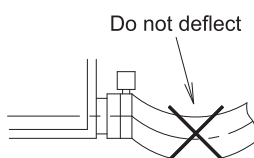

Fig. 26
- Do not deflect the drain hose (1) inside of the indoor unit. (Refer to Fig. 26)